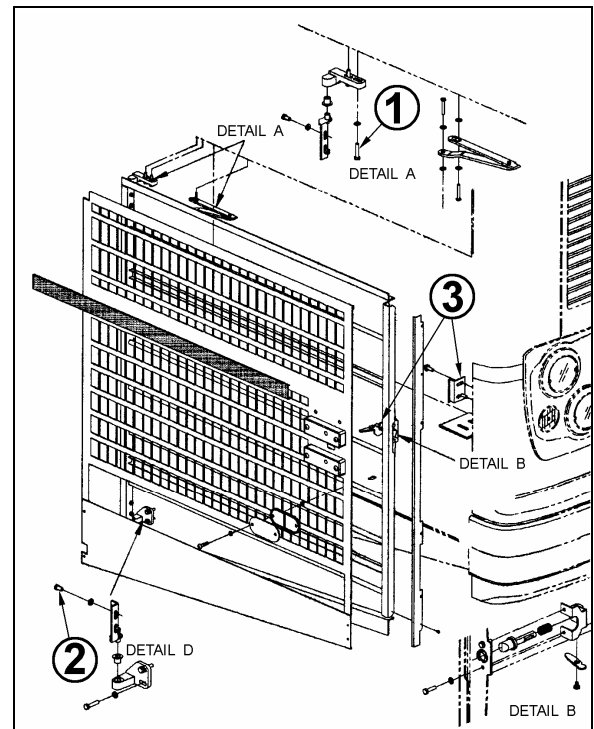

FIGURE 34: RADIATOR DOOR 18636
1. Loosen the bolts, (1, Fig. 34) holding the hinge to the vehicle structure to shift the door "IN or OUT" and "UP or DOWN".
2. Loosening the bolts (2, Fig. 34) allows the door to be shifted "LEFT or RIGHT" and "UP or DOWN".
To adjust the latch mechanism (3, Fig. 34) and the striker pin: